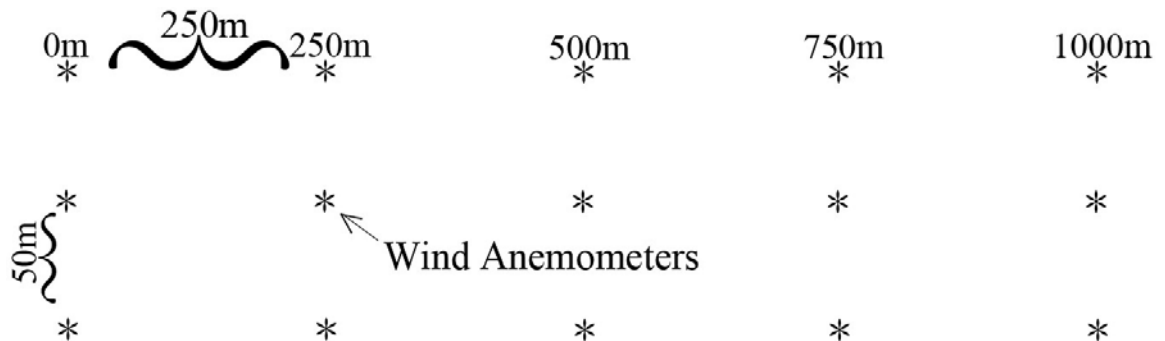

Figure 1. Aerial perspective of sampling array and anemometer spacing.
- The sampling array, when deployed in the field should look that shown in figure 1.